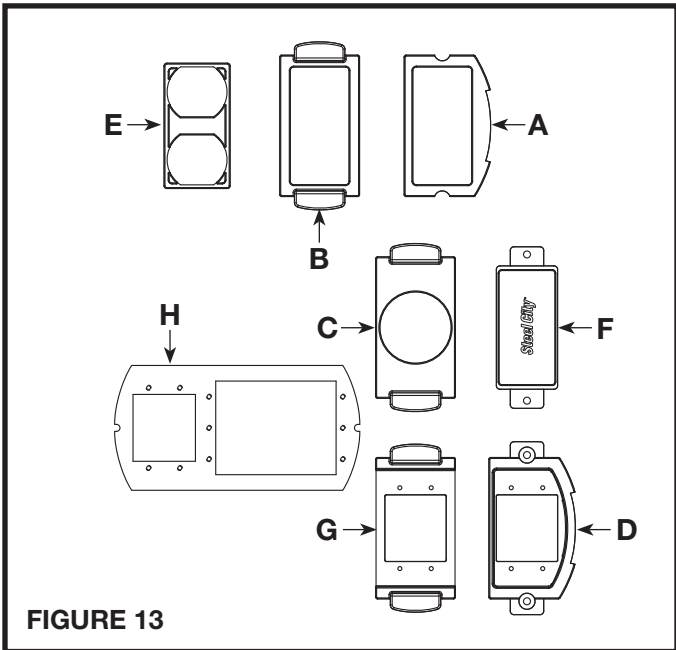

FIGURE 13
- 5.1 The 68-HP can be outfitted with other power and data plates to meet your floor box requirements. Shown below are some of the plates Thomas & Betts offers. Consult the catalog or website for further details (see Figure 13).